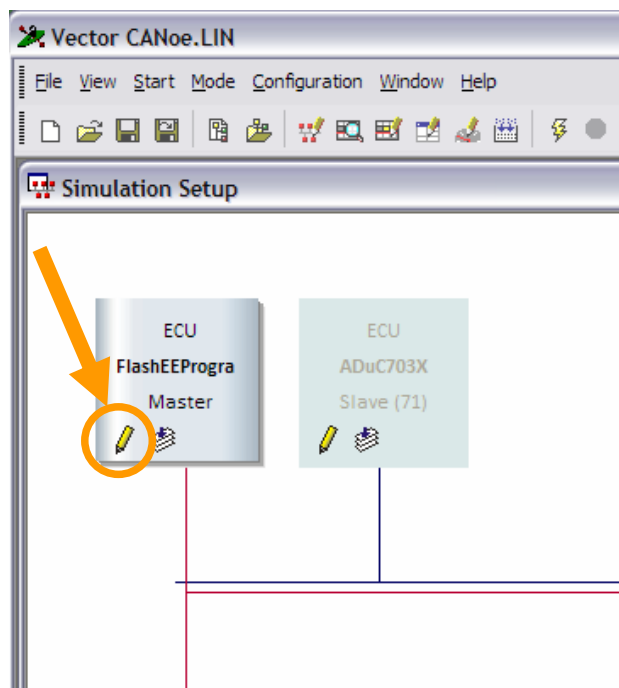

Figure 4 - Opening the LIN Master CAPL program block
- Left-click the pencil icon on the 'ADuC703X' node in the 'Simulation Setup' window of CANoe.LIN as shown in figure 4.